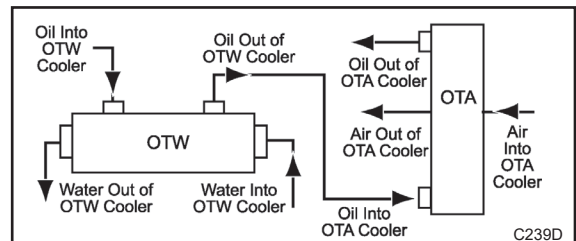

Figure 14: Coolers in Series – OTW before OTA
- Series – all of the transmission oil flows sequentially through one cooler and then the other as shown in Figures 14 and 15.
- Routing the transmission oil through the oil-to-water cooler first (Figure 14) typically results in a lower oil temperature into the transmission sump.